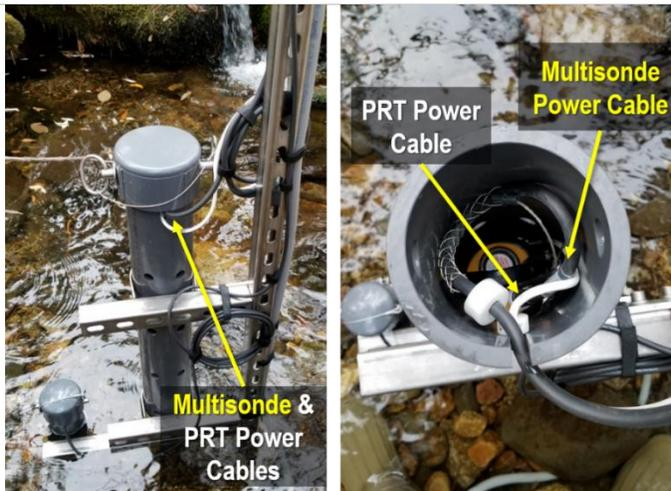

Figure 124. Disconnect sensor power cable
**STEP 4** | Remove the Multisonde and disconnect the sensor power cable that connects to the Grape (**Figure 124**). The Multisonde uses a 12V Merlot Grape. These either mount to the stream anchor above the sensor or nearby on a device post onshore.